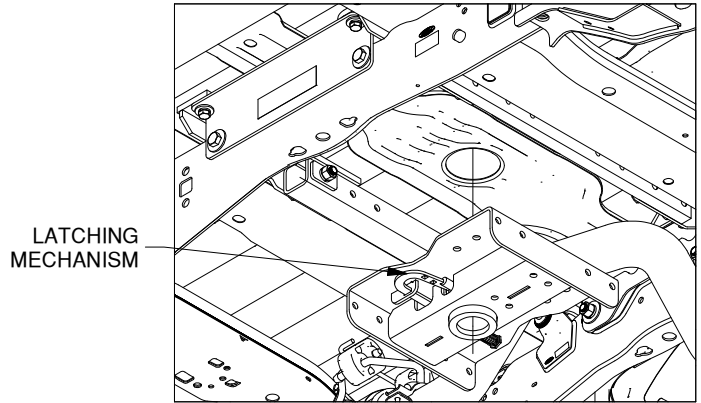

Figure D1: Bottom of truck frame looking up at hitch installation area.
1. **Position center section.** Push the front cross member forward and the rear cross member rearward so that there is room between them for the center section. With the square holes of the latch mechanism on the driver side, lift the center into place as shown in Figure D1.